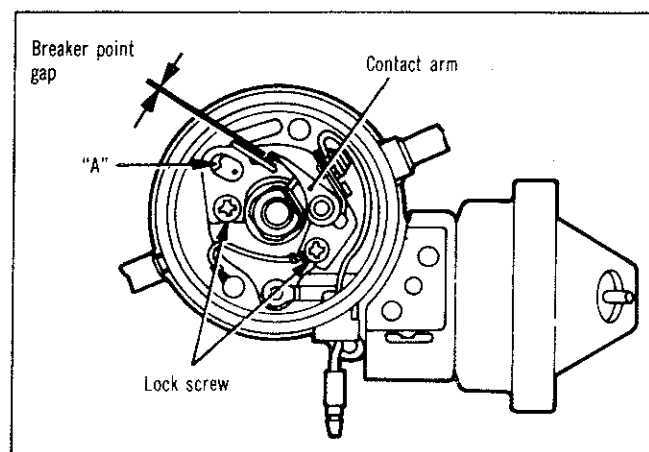

Fig. 2—Breaker point gap adjustment
- (1) With distributor cap and rotor removed, manually rotate engine until the breaker point rubbing block is positioned on the highest point of the cam.
- (2) Loosen the breaker point locking screws and insert a screw driver at point "A" (Fig. 2).
- (3) Turn the screw driver to adjust the breaker point gap to specification.
- (4) With breaker point gap set, securely tighten the locking screws.